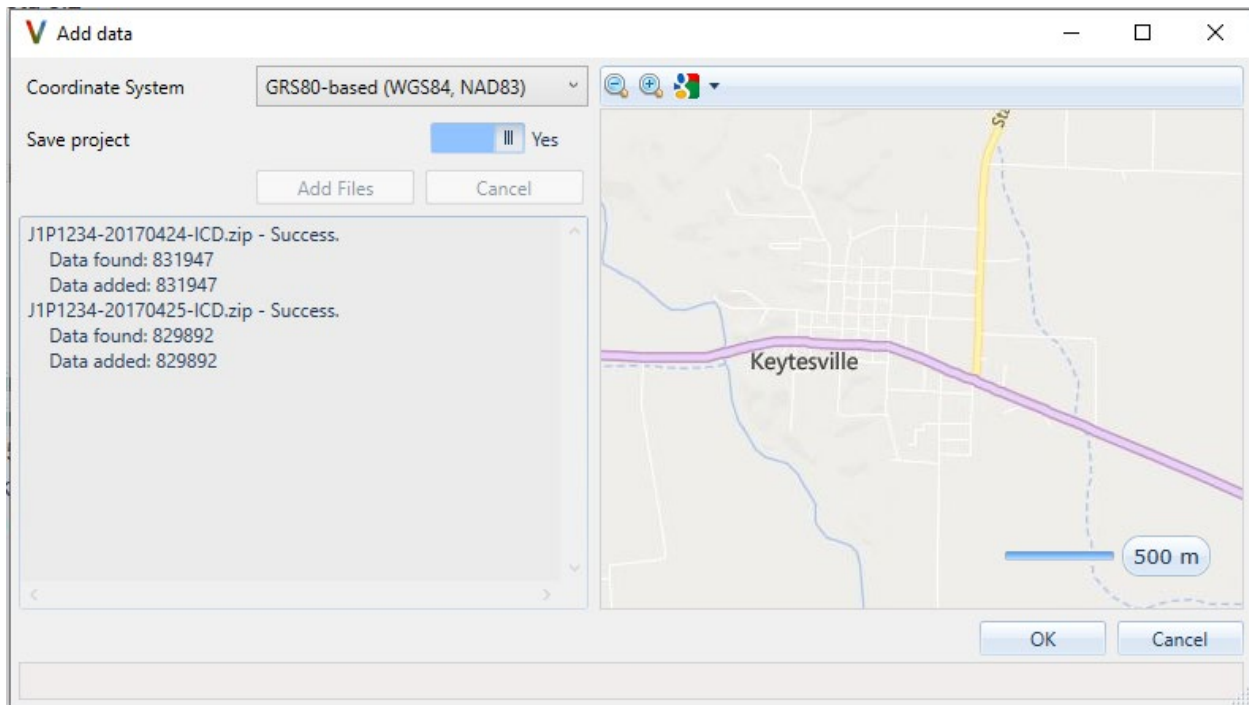

Figure 4. Add data window. The general map area of data is displayed.
4. Choose whether to save the project after adding data files using the **Save project** switch. Then click **Add Files**. The data will appear in the map display shown in Figure 4. If the data appears invalid on the map, check that the coordinate system and units are correct. If the data looks correct, click **OK**.